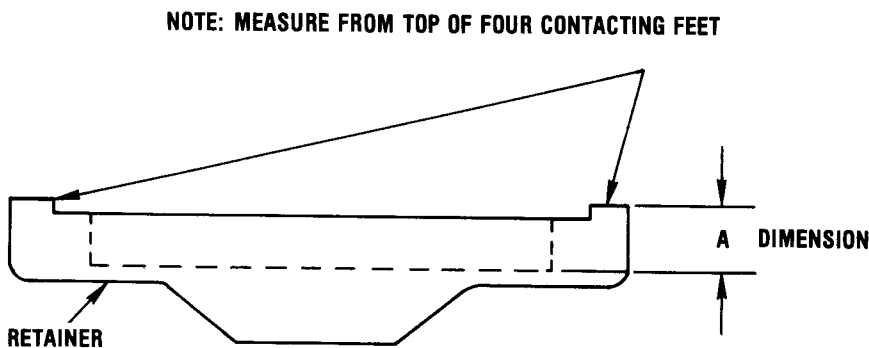

Figure 1. Depth measurement
1. Measure the depth of the bearing cavity in the bearing retainer plate. See Figure 1. This will be dimension "A".